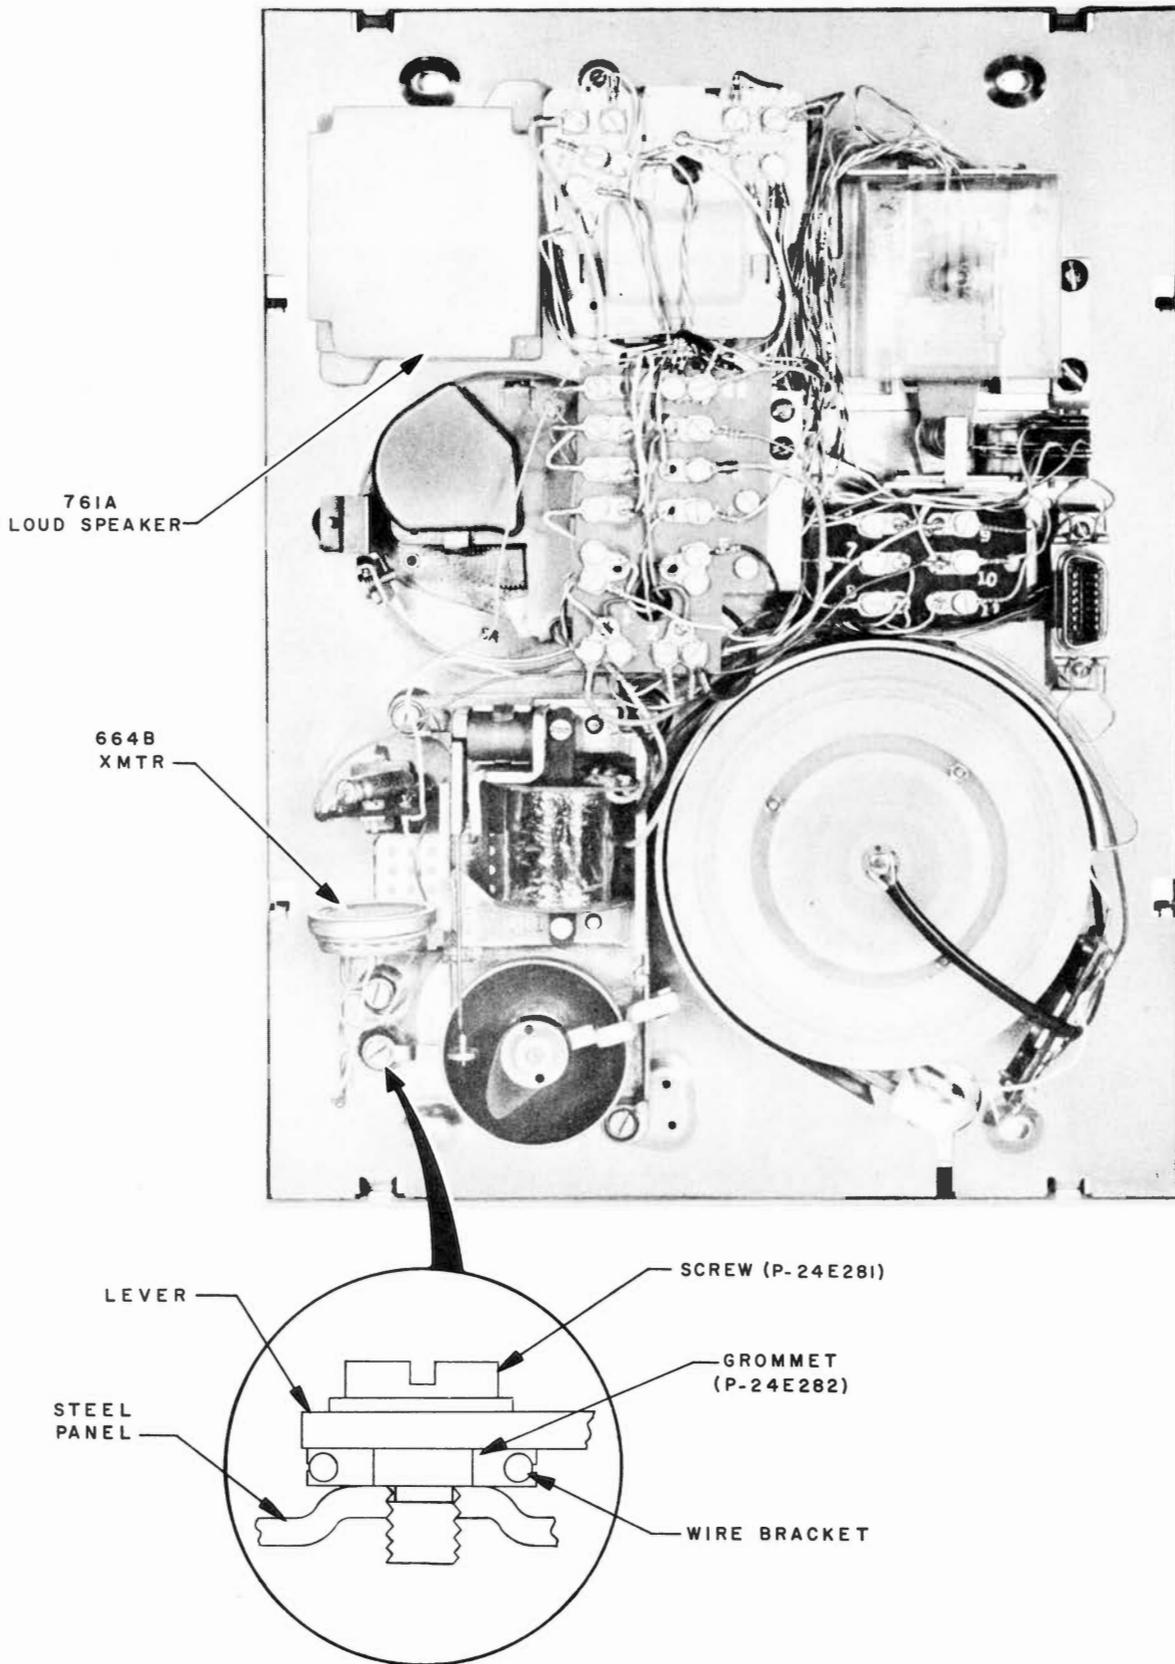

Fig. 5—751-Type Telephone Set With 1A Home Interphone, Components on Panel, Rear View
3.09 The 1A HOME INTERPHONE components as installed in a 751-type telephone set are shown in Fig. 5. The 664B transmitter and 761A loudspeaker must be ordered separately and installed as required.
3.10 The wire mounting bracket of the 664B transmitter is part of the electrical circuit and must be insulated from the steel panel. Two rubber grommets (P-24E282) are used for this purpose. See exploded view of Fig. 5 for placing the grommets.